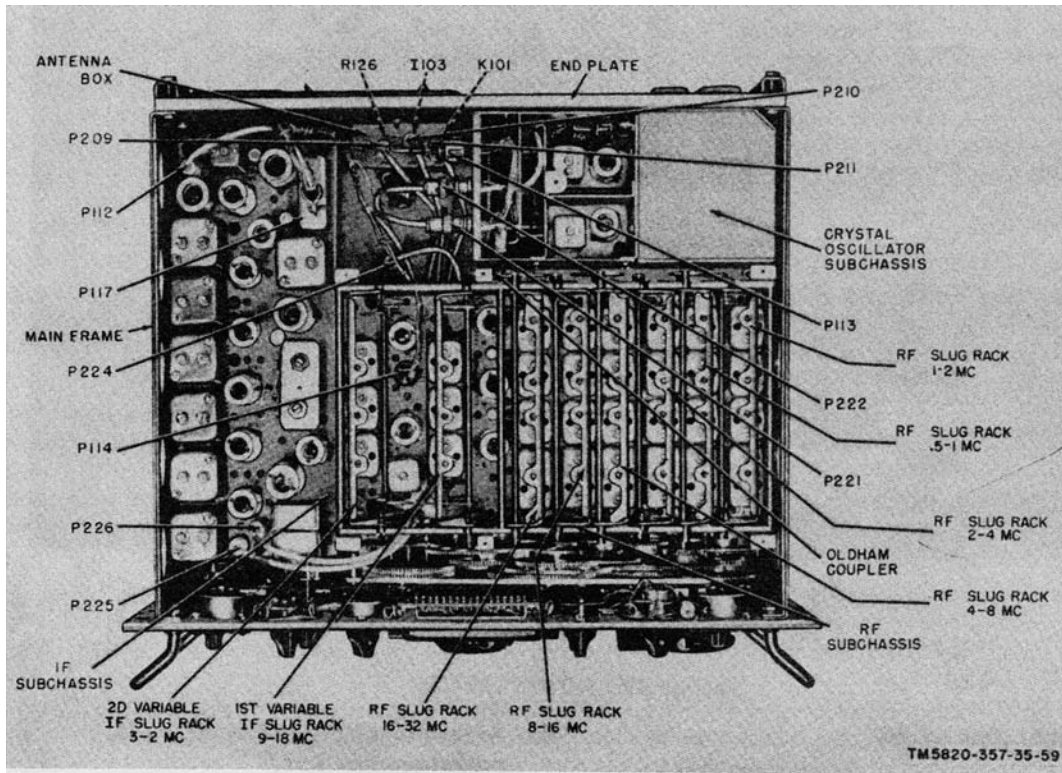

Figure 41. Receiver, top view, dust cover removed.
- (1) Lower the subchassis straight down into the receiver.
- (2) Tighten the three green captive screws.
- (3) Reconnect plug P117 (fig. 41).
- (4) Reconnect coaxial connectors P225, P226, and P112.
- (5) Tighten the clamp screws on the BANDWIDTH and BFO PITCH control shafts, and couple the shafts by
- (1) Remove the bottom dust cover from the receiver.
- (2) Disconnect plugs P715 and P916.
- (3) Disconnect coaxial connector P224 on the top deck of the receiver (fig. 41).
- (4) Loosen the two green captive screws at opposite ends of the subchassis.
- (5) Carefully lift the subchassis out of the receiver.
- (1) Carefully lower the subchassis into the receiver.
- (2) Tighten the two green captive screws at opposite ends of the subchassis.
- (3) Connect coaxial connector P224 on the top deck of the receiver (fig. 41).
- (4) Reconnect plugs P715 and P916.
- (5) Replace the bottom dust cover.
(fig. 41)
- (1) Disconnect coaxial connector P209, P210, and P211 (fig. 41).
- (2) Unsolder the leads from the winding of antenna relay K101.
- (3) Remove the three screws that secure the antenna box to the rear panel of the receiver.
- (1) Disconnect P225 and P226 (fig. 41).